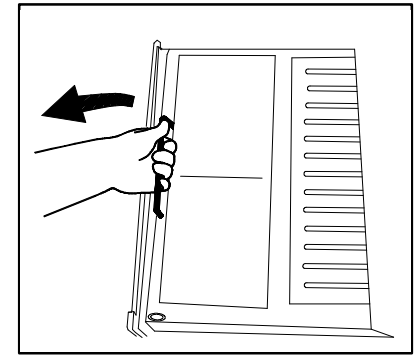

FIGURE 3-4: UNFOLD FRONT PLATFORM SECTION
- 4) Refer to **Figure 3-4**. Grasp front section handle (located at left side of front platform section) with left hand and begin to unfold. When this section is vertical, release left hand and grasp top edge with right hand. Finish unfolding.